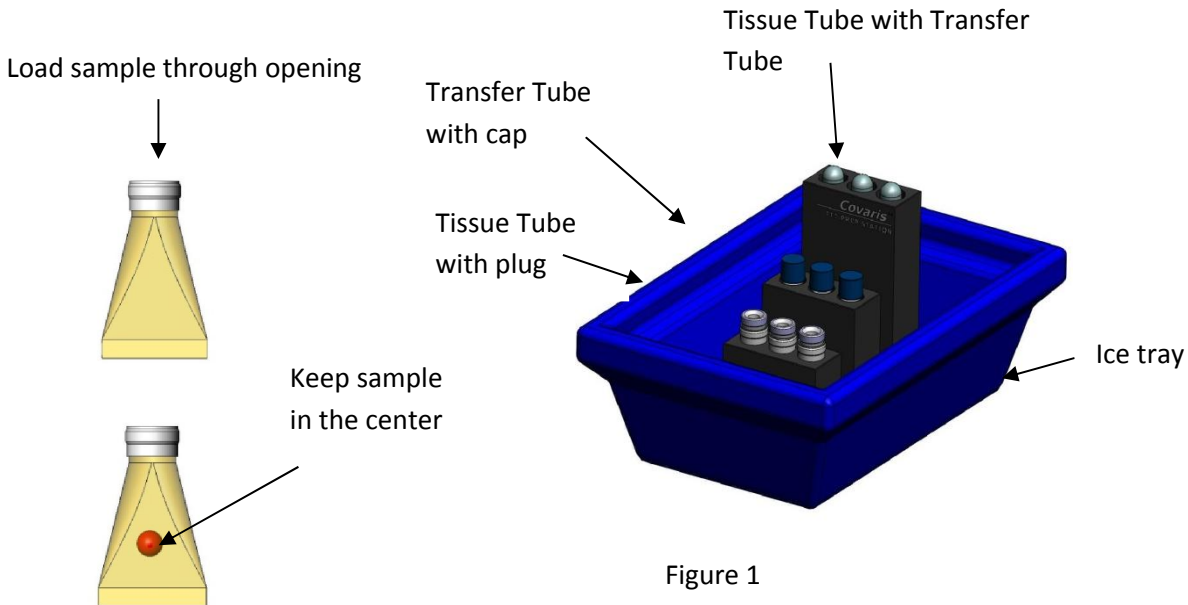

Figure 1
- 2. Pre-chill the Transfer Tube** – small transfer tubes (TC 12x24 and TC 13) can be placed directly on dry ice, whereas larger transfer tubes (TC 16 and TC 20) can be pre-chilled by placing them into the second position in the Prep Station shown in Figure 1.